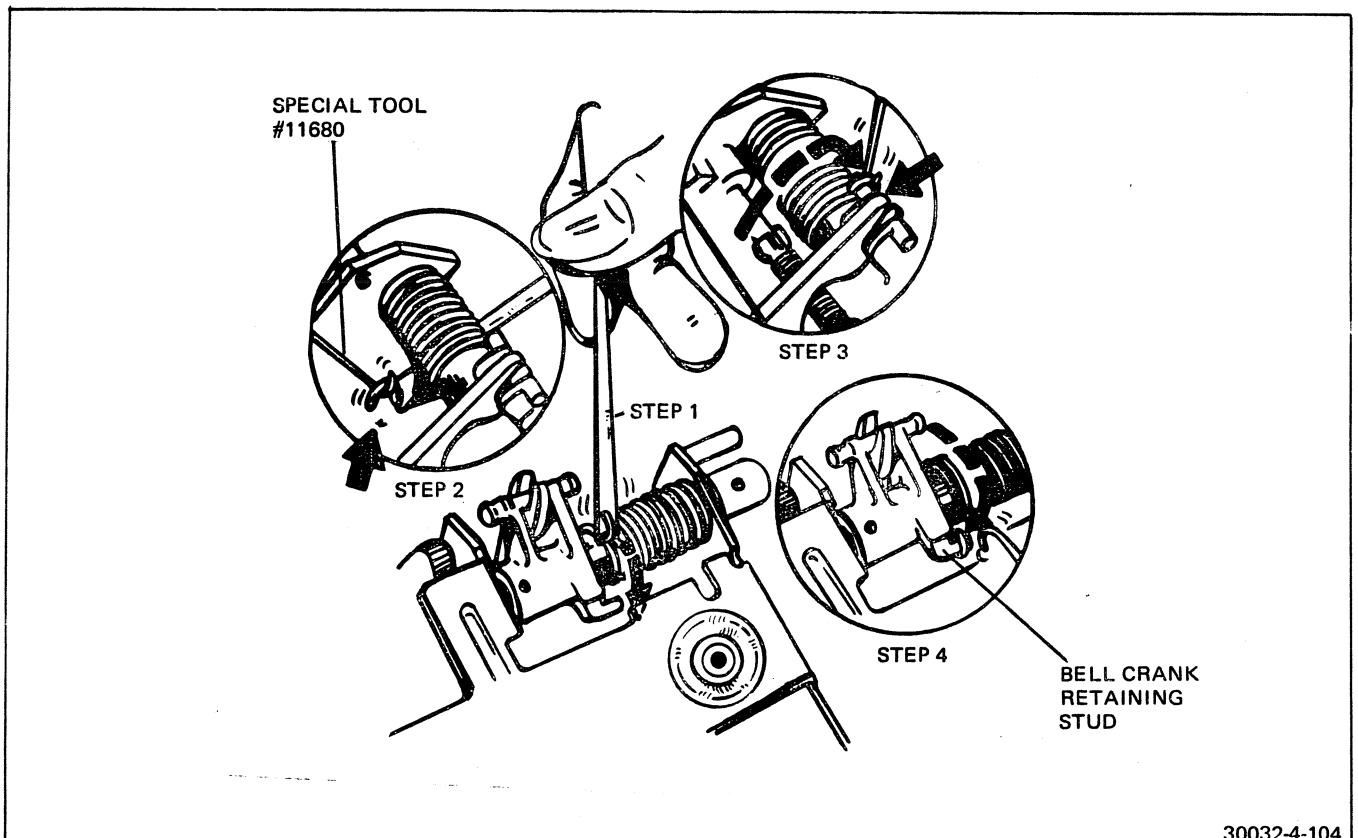

FIGURE 4-104 TENSIONING THE FRESNEL DRIVE SPRING
56. Hold the end of the spring down and at the same time reach under with the hook of the Special Tool # 11680. See Figure 4-104.
Follow the steps, in order, as shown in the drawing, Figure 4-104.